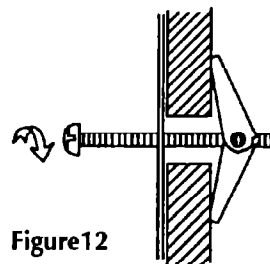

Figure 12
4. Align the mounting plates carefully and hold in position while tightening toggle bolts. Pull toggle bolt toward you and turn clockwise to tighten (**Fig. 12**).